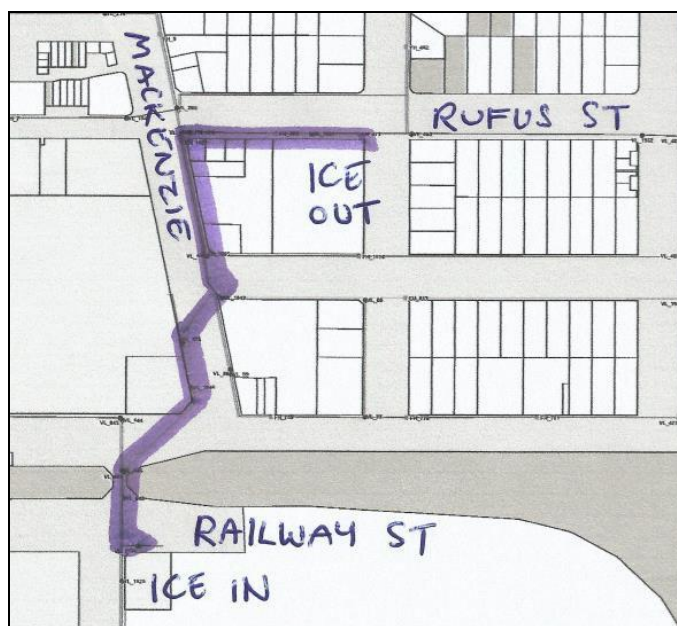

Figure 2: Operation (approx. 500m of 375-250mm)
3. The two-phase property of an ice slurry allows single run cleaning of different size pipelines. *See Figure 2.*